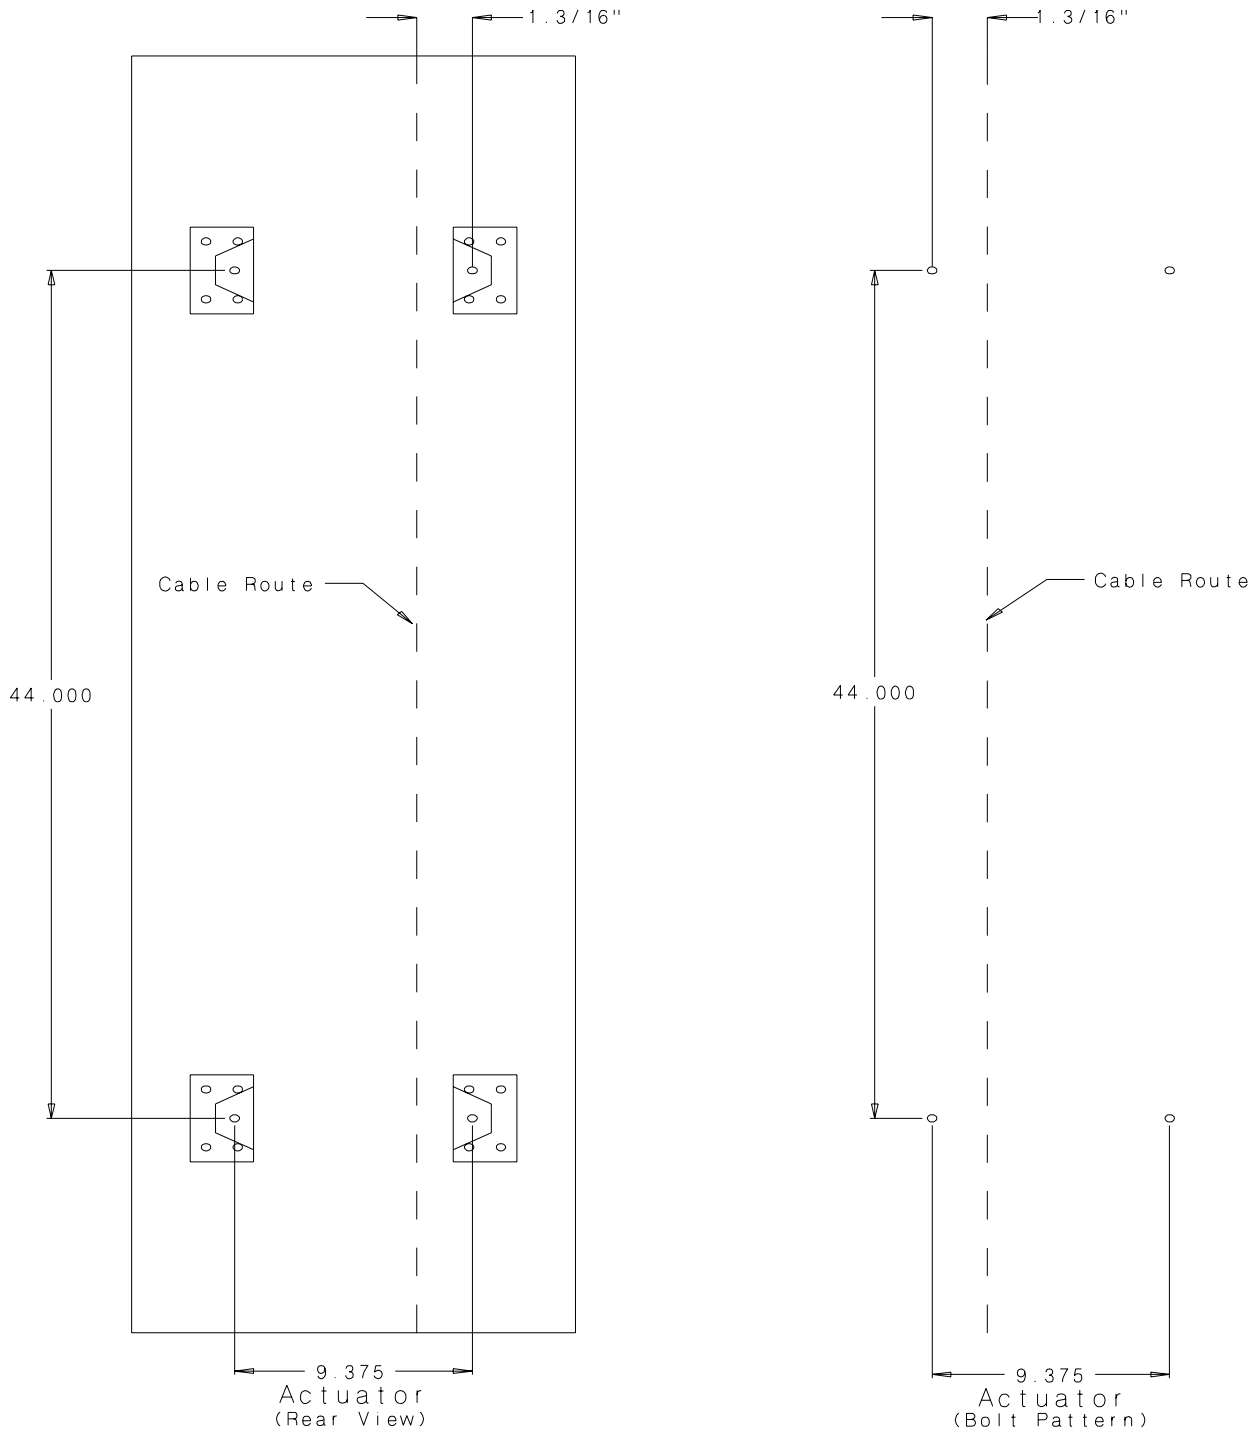

Figure 3: Bolt pattern to drill holes for the Actuator Control Box
- 4) Use the pattern in Figure 3 to drill holes for the Actuator Control Box.